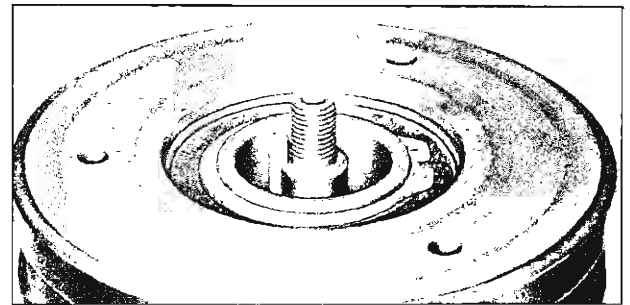

Fig. 17—Drive Plate Key Installed in Keyway
1. Insert the square hub and drive plate key into the keyway in the drive shaft allowing it to project approximately $\frac{3}{16}$ " out of the end of the keyway (fig. 17).